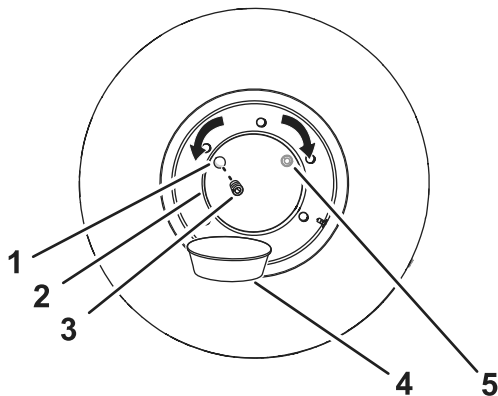

Figure 95
2. Move the machine forward or backward until the plug for the wheel hub is at either the 10 o'clock or 2 o'clock position (Figure 95).
4. Place a drain pan under the drain port in the wheel hub (Figure 95).
5. Remove the plug from the wheel hub (Figure 95).
6. Check that the oil level is at the bottom of the threads of the oil port (Figure 95).
8. Install the plug in the oil port of the wheel hub (Figure 95).
1. Move the machine forward or backward until the oil plug for the wheel hub is at the 12 o'clock position; refer to Figure 95 in Checking the Oil Level in the Wheel Hubs (page 69).